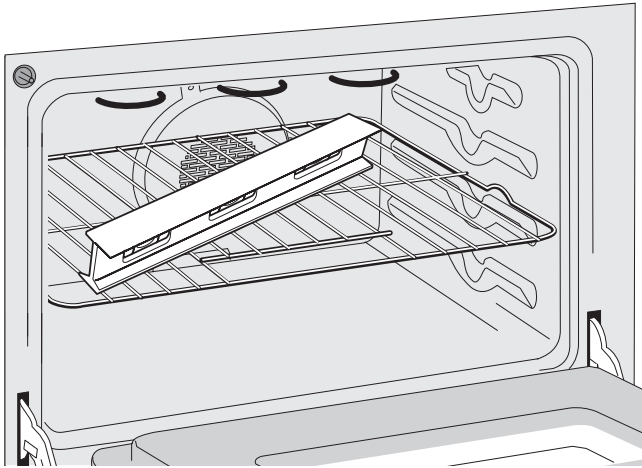

Figure 6: Leveling the range
2. Place a level on the rack (Figure 6). Take 2 readings with the level placed diagonally in one direction and then the other.